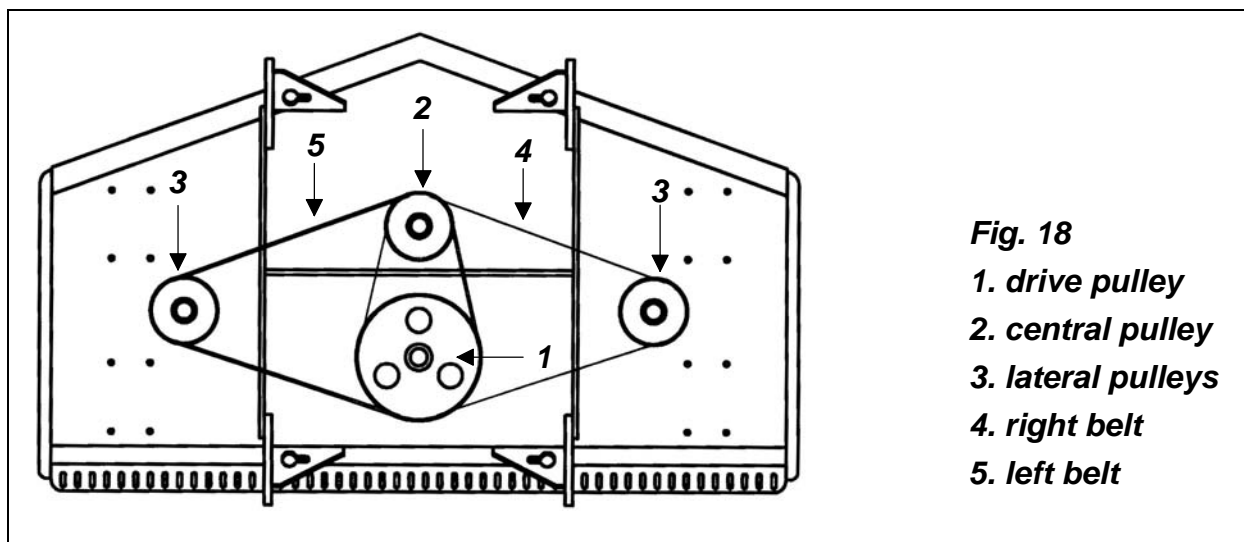

Fig. 18
8. Replace new belts (**see fig. 18**). Loop the first belt over the left spindle and around the lower groove of the center spindle pulley and the lower groove of the gearbox drive pulley. The second belt connects the upper grooves of the center spindle pulley and the gearbox drive pulley with the right spindle pulley.